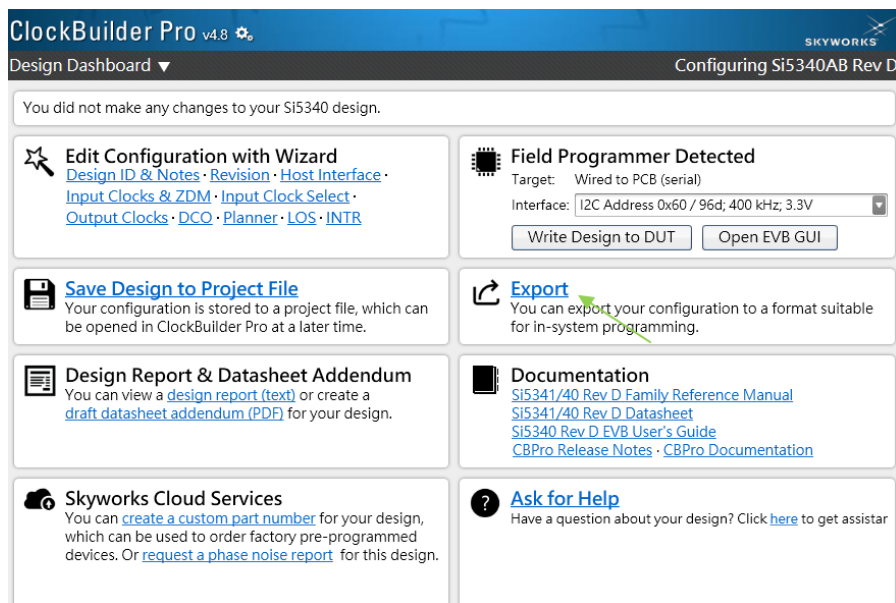

Figure 2-14 Click “Export” in CBPro
- As shown in **Figure 2-14**, click “Export” in ClockBuilder Pro to open Si5340 Export Dialog.